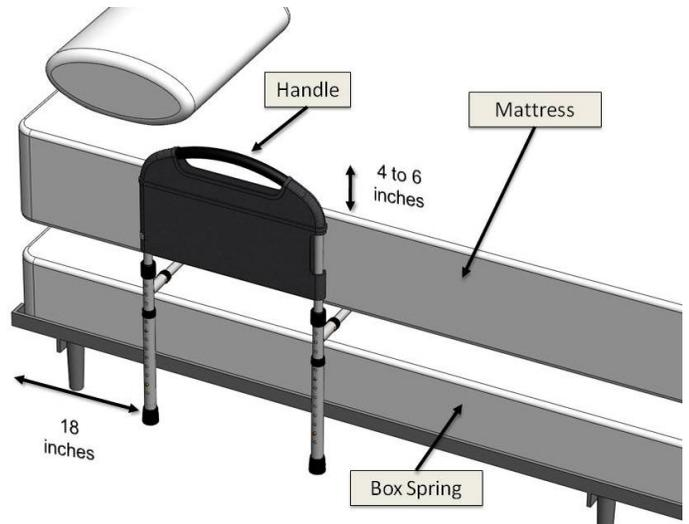

FIGURE 4
4. As shown in Figure 4, fully insert the assembled product between the mattress and box spring of the bed. Note that product should be at least 18" away from the head of the bed and the Handle should be 4" to 6" above the top of the mattress.